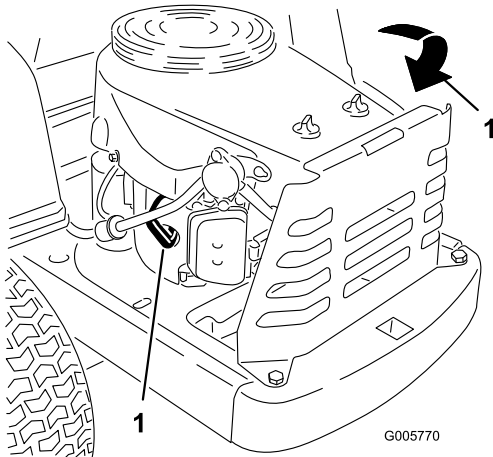

Figure 28
- Pull the wire(s) off of the spark plug(s) (Figure 28). Clean around the spark plug(s) to prevent dirt from falling into the engine and potentially causing damage.
- Push the wire(s) onto the spark plug(s) (Figure 28).